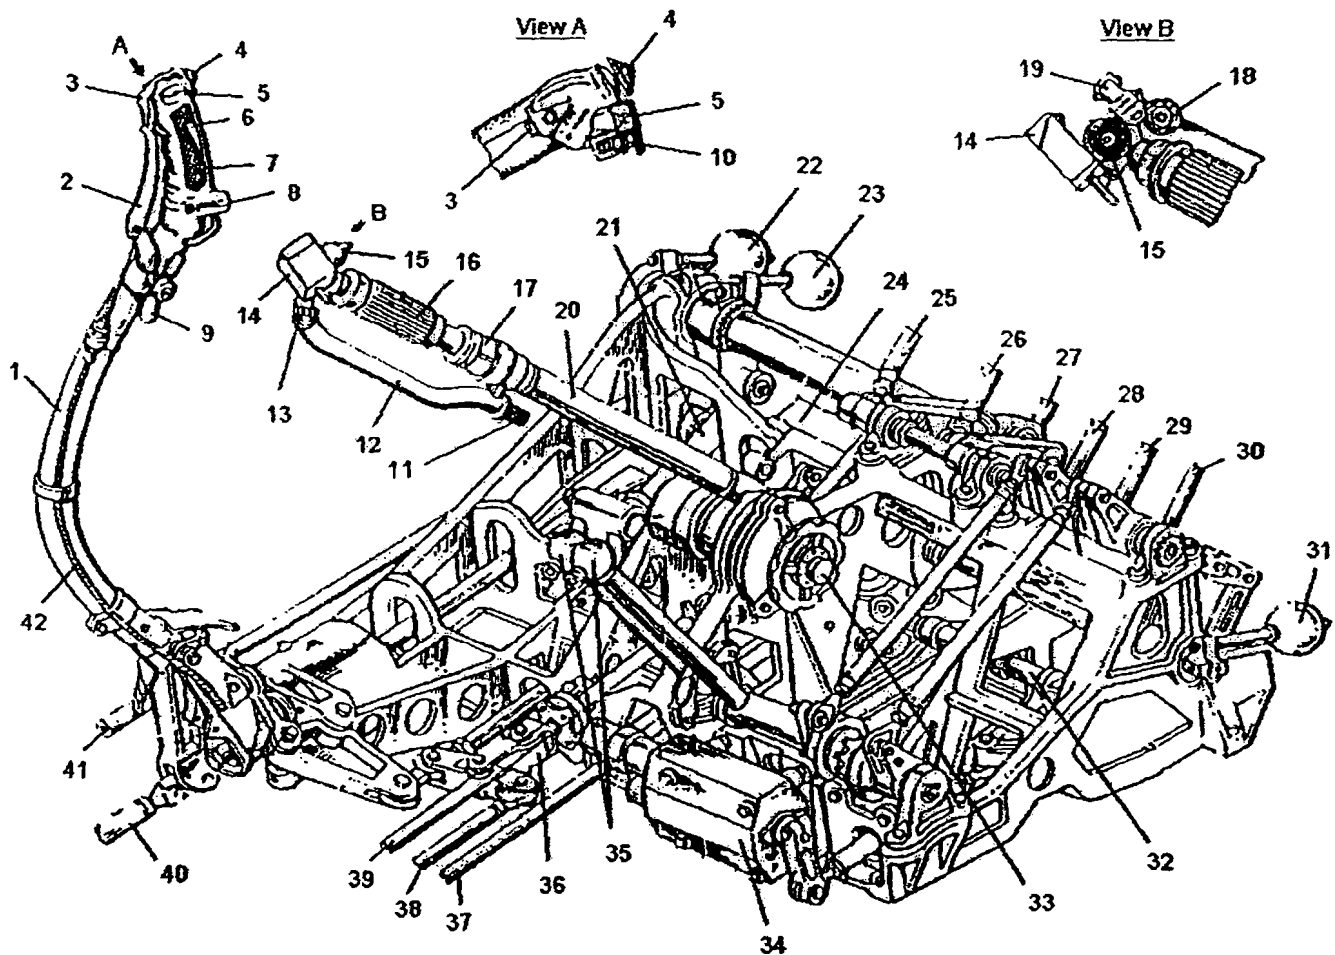

Figure 2-35 Primary Input Mixing Unit
The helicopter is equipped with lateral longitudinal, collective pitch, and directional flight, control subsystems. Control inputs are transferred from the cockpit to the rotor blades by mechanical linkages and hydraulic servos. Pilot control is assisted by an automatic flight control system (AFCS) with an integrated four channel autopilot, the hydraulic flight control servos, and pitch and roll trim systems. Both the pilot and CPG have collective, cyclic, and direction controls, which are routed separately to the primary input mixing unit (Figure 2-35). Outputs from the mixing unit are carried by mechanical linkage to the first and second stage control units which combine, sum, and couple the cyclic, collective, and yaw inputs. Resultant output signals are boosted and routed to the main and tail rotors and synch elevators through mechanical linkages with the hydraulic servos. Flight controls in the CPG compartment are designed to allow the CPG to fly and land the helicopter in an emergency.
The pilot's cyclic stick is mounted directly on the primary input mixing unit (Figure 2-35). The grip (7) includes a wheel brake lever (2) and lock (9), a three position ICS/ RADIO button (3), a TRIM DISENGAGE button (6), an eight position trim control (4), an AUTOPILOT DISENGAGE button (8), and a weapons FIRE button (5). The FIRE button has a guard (10) to prevent accidental activation.
The pilot's collective stick is mounted on the primary input mixing unit (Figure 2-35). The stick (20) includes the twist-grip throttle control (16) with friction adjustment (17), covered control buttons for external cargo emergency jettison (13) and normal release (19), a spring-loaded N₂ trim INCR-DECR switch (14), a searchlight control button (15), and a CLUTCH RELEASE button (18). A hydraulic clutch holds the stick securely in any position, allowing the pilot to make smooth pitch adjustments and preventing the stick from creeping. Ordinarily, the clutch is adjusted manually using the handwheel (33) to allow the stick to be moved, without releasing the clutch, with a force of 45 to 55 lb. The CLUTCH RELEASE button activates the hydraulic release system, allowing the stick to be moved with a force no greater than 3.3 lb. When the button is released, the clutch re-engages. The clutch release circuit is powered by 27 VDC from Battery Bus I via the COLLECT CLUTCH circuit breaker on the right cb panel.
Force centering devices are incorporated in the cyclic controls. These devices are installed on the primary input mixing unit (see Figure 2-35). The devices furnish a force gradient or "feel" to the cyclic sticks. The farther the stick is deflected, the more force is applied. A TRIM DISENGAGE button is located on the pilot and CPG cyclic stick grips. Pressing and holding the TRIM DISENGAGE button will immediately reduce the forces on stick to zero. Releasing the button re-engages the trim. The eight position TRIM controls located on both cyclic grips allow for more precise centering of the forces on the cyclic sticks. The force gradients receive 27 VDC power from Battery Bus II via the FORCE TRIM MCU circuit breaker on the right cb panel.